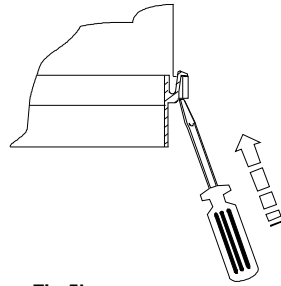

Fig 5b
- the carpet tool **A**, provided with a hole **E** on the top must be applied in the position **C** instead of the squeegee and it is used to dry working forward. For the coupling of the fittings use a screwdriver (Fig. 5b);